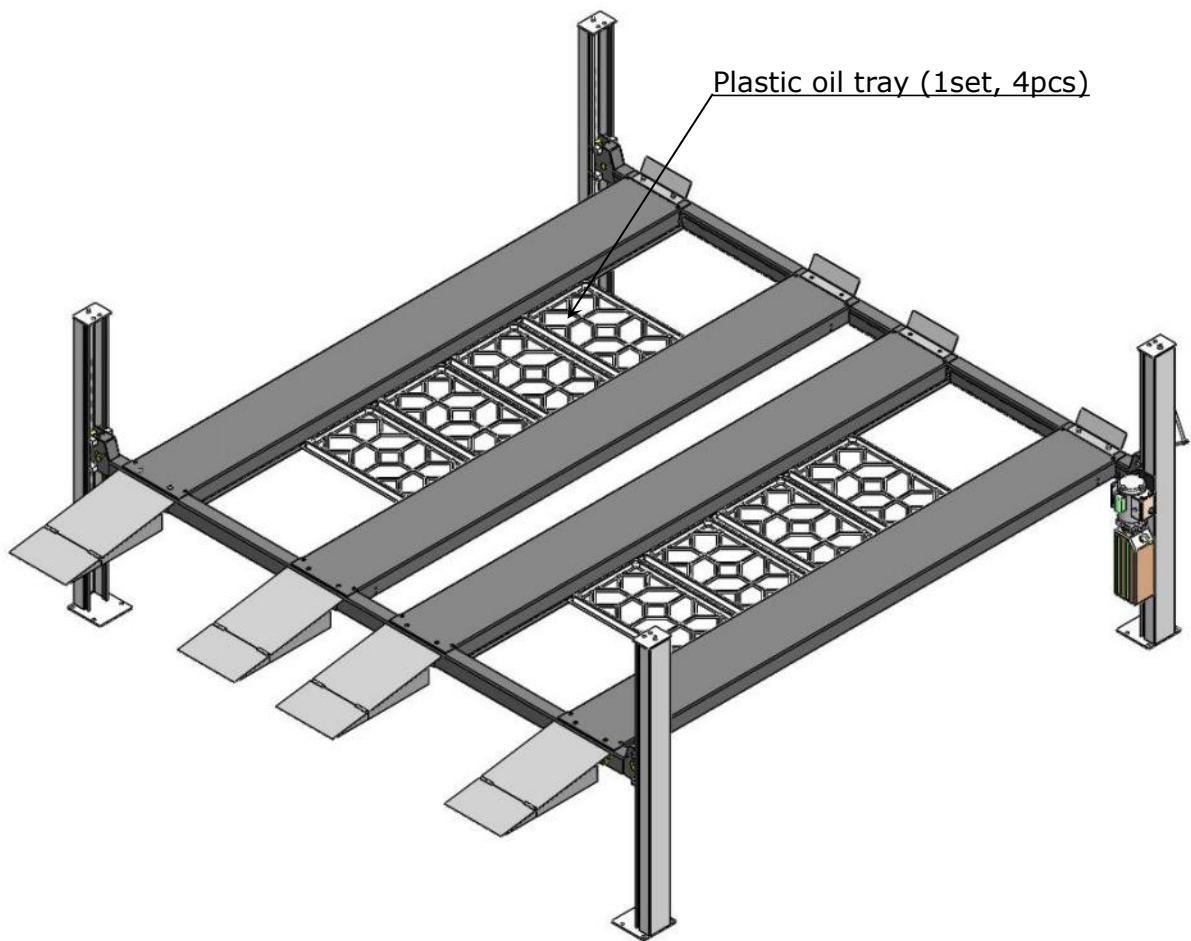

Fig. 41
O. Install optional plastic oil tray (Kits No.40806) (See Fig 41)